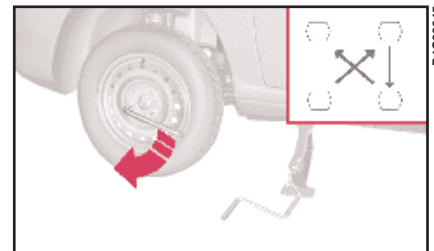

fig. 5
13) Tighten up the wheel bolts completely in criss-cross fashion following the order shown in (fig. 5).
8) Tighten up the bolts completely in the order given previously in (fig. 5).